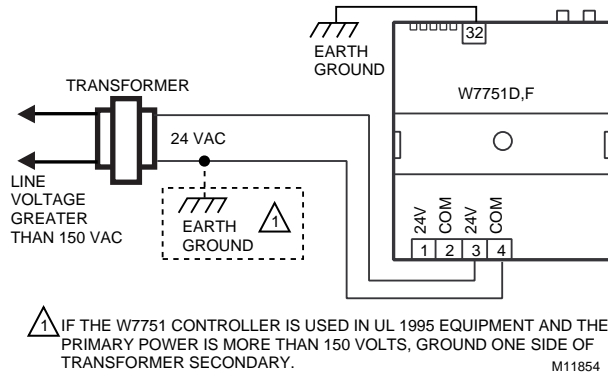

Fig. 57. Transformer power wiring details for one Excel 10 used in UL 1995 equipment (US only).
*If the W7751 Controller is used on **Heating and Cooling Equipment (UL 1995 US only)** devices and the transformer primary power is more than 150 volts, connect the transformer secondary to earth ground, see Fig. 57.*
If the W7751 Controller is used on **Heating and Cooling Equipment (UL 1995 US only)** devices and the transformer primary power is more than 150 volts, connect the transformer secondary to earth ground, see Fig. 57.